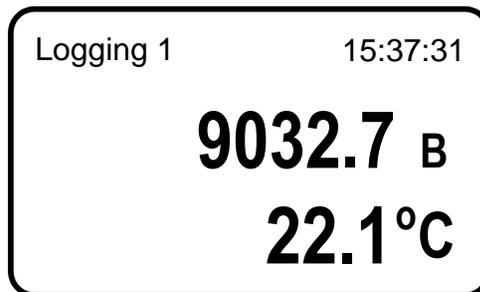

FIGURE 5-7 LOGGING SCREEN
3. Press and HOLD the **Enter** button to commence data logging. The logging screen will appear (Figure 5-7).